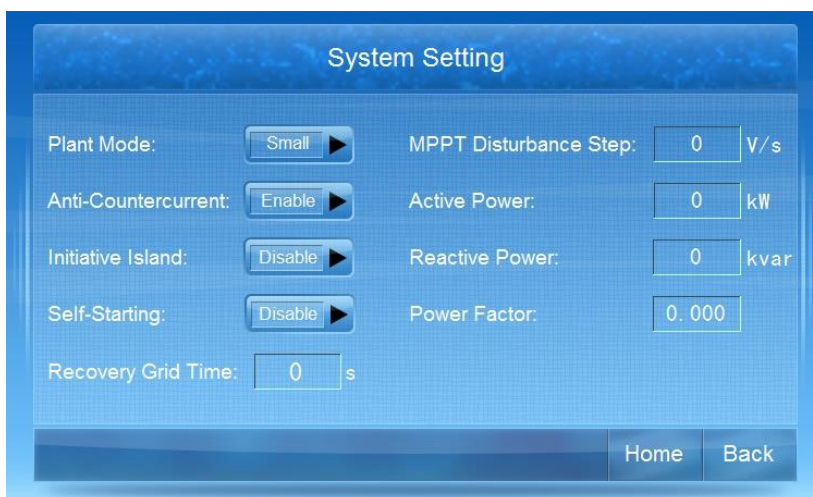

Figure4-16 “System setting” page
Step 4 On **Preferences** page, click “system setting” icon to enter **System Setting** page, as shown in Figure4-16.